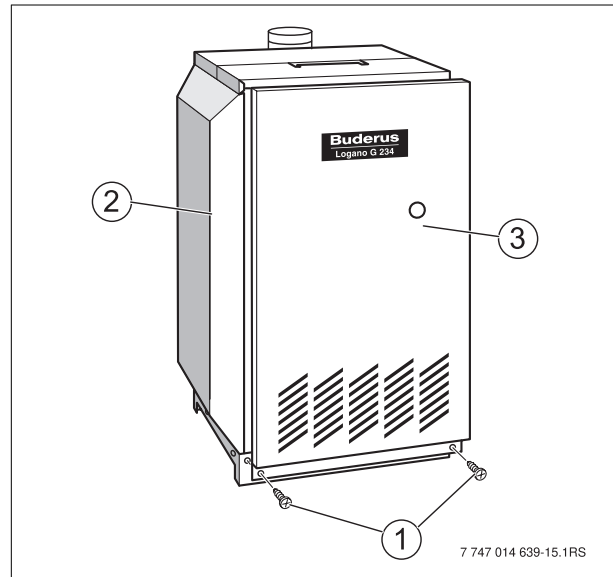

Fig. 5 Remove front wall of boiler
- ▶ Replace front wall of boiler (→ Fig. 5).